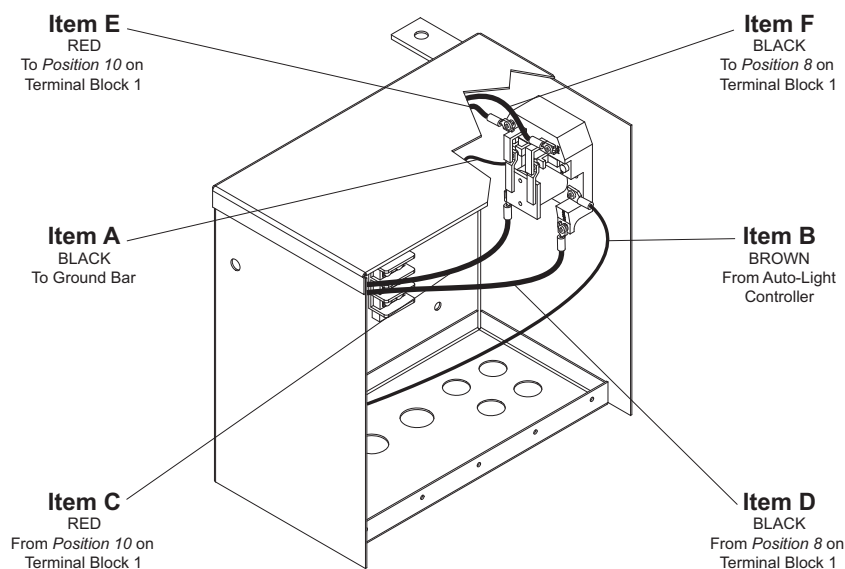

FIGURE 7
7. Remove the black wire from position #8 of terminal block 1 and attach it to the right side Common (C) terminal at the bottom right side of the relay. SEE FIGURE 7, Item D.